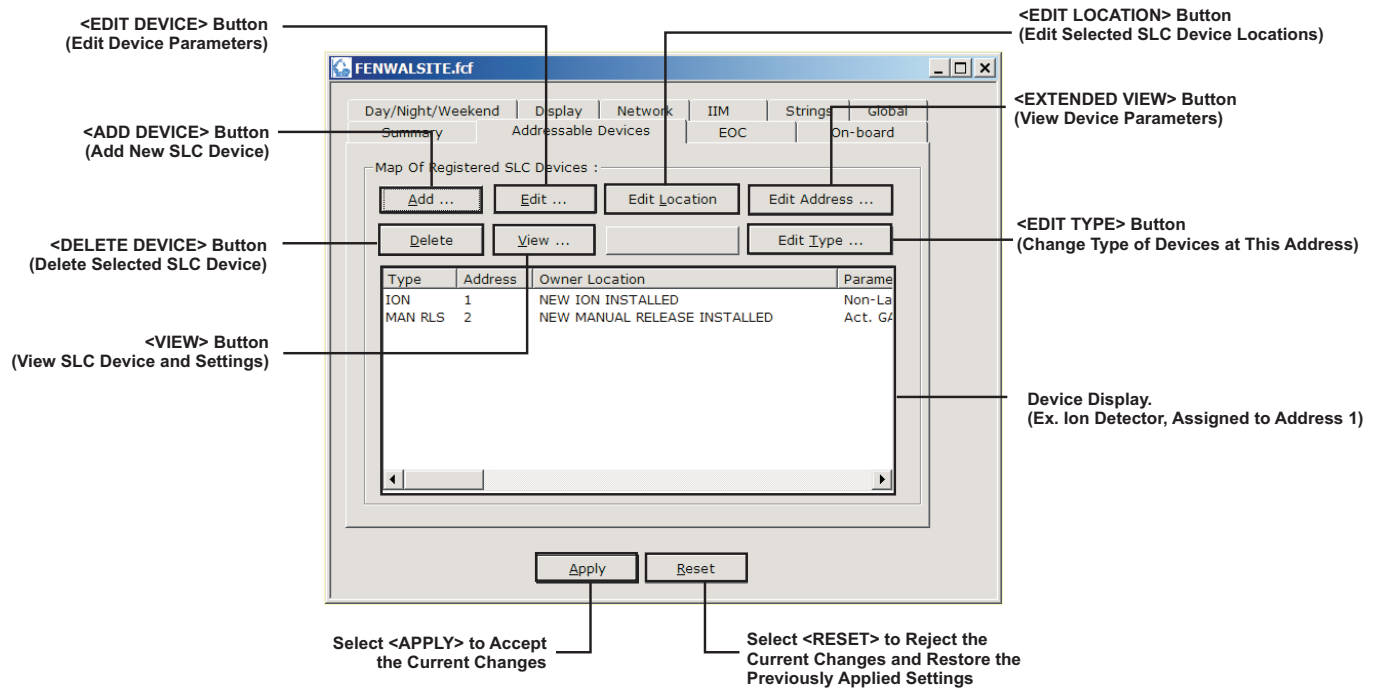

Figure 2-3. Addressable Devices Screen
1. Select the "Addressable Devices" tab; Figure 2-3 displays.